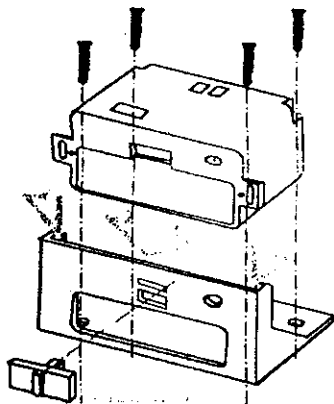

Figure 3
- Slide the Remote Receiver into the fireplace mounting plate. See Figure 3.